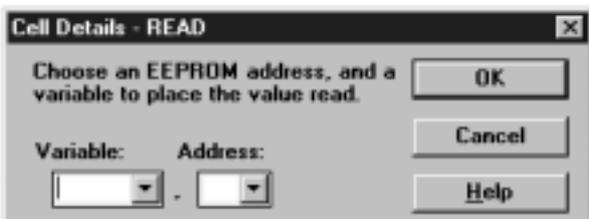

Fig 5.17. READ command Cell Details box.
1. The READ command takes the value which is currently stored in a selected address (in this case address 0), and puts it into the selected variable (in this case variable A). Use the READ command Cell Details box (fig 5.17) to enter the variable and the address from which the value is to be read.